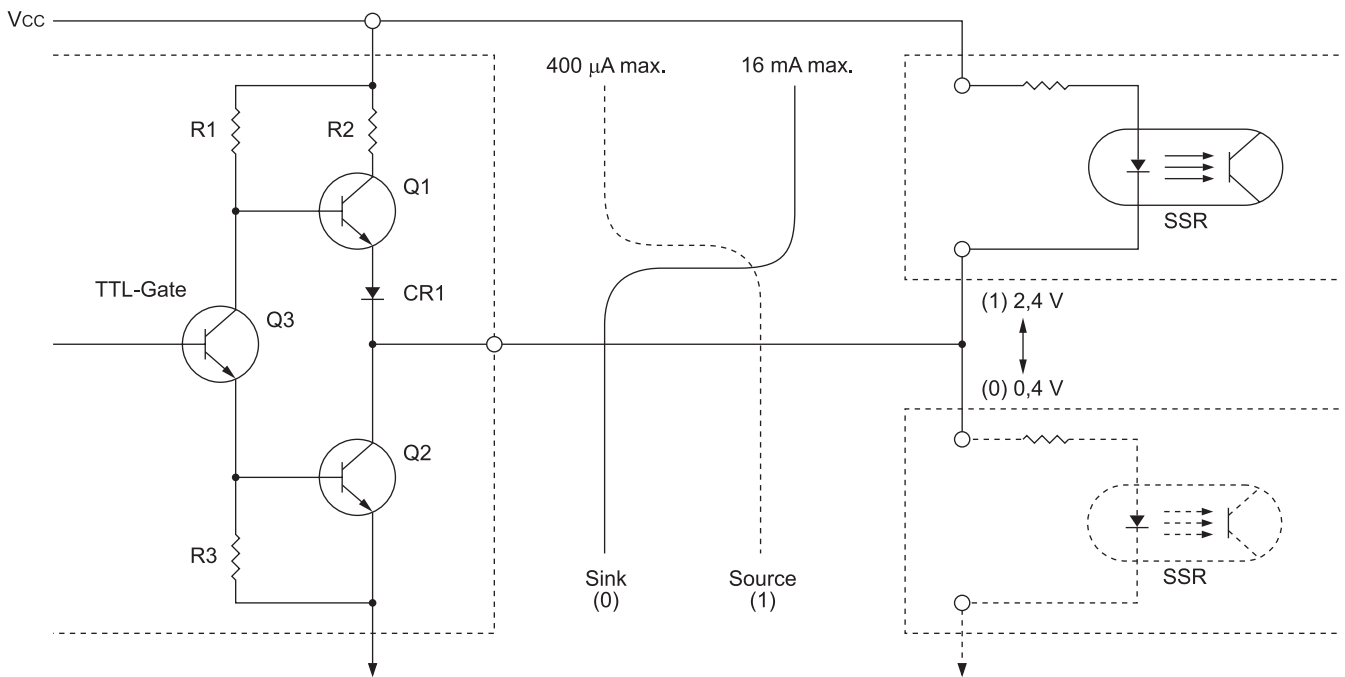

Fig. 6: Typical circuit of a TTL gate driving SSR
The activating signal may be derived from mechanical contacts or solid state devices such as those shown in figure 6. The minimum supply voltage through these contacts may be equal to the SSR turn-on voltage (3 volts dc typical), whereas the positively or negatively referenced transistors require a minimum supply voltage a few tenths of a volt above the specified turn-on threshold, say 3.5 volts
The relationship of the TTL gate to an SSR is illustrated schematically in Fig. 6. In this configuration the SSR supply voltage and the gate Vcc should be common and comply with the TTL specified limits of say 5 volts +/- 10%. It can be seen that with a positively referenced SSR and the gate at logical (0), Q2 is operating much like a discrete NPN transistor in the grounded-emitter saturated state. In this mode the gate can
It should be noted that the 2,4 volt gate output in the logical 1 state relates only to a negatively referenced load. It does not represent a voltage source to a positively referenced load (SSR), where it would appear to be greater than the off state voltage. Referring again to Fig. 6, Q2 would be off and CR1 is reverse biased, thus presenting essentially an open circuit with virtually zero potential across the SSR.
The off state leakage current in the driving semiconductors shown in Figs. 6 to 8 is significant, just a few microamperes, which could not possibly turn on the SSRs. However, the off state (output leakage current of any packaged solid state driving device (e.g. temperature controller, etc.) should first be checked for compatibility with the SSR.